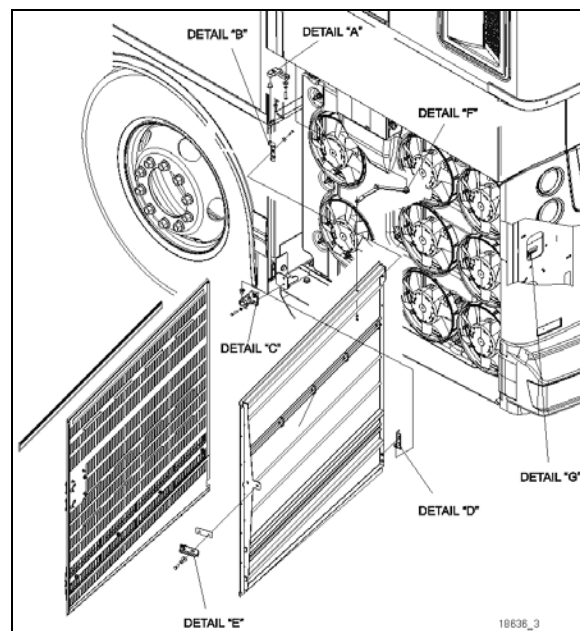

FIGURE 125: RADIATOR DOOR
6. Loosen the bolts, (details "A" & "C", Figure 125) holding the hinge to the vehicle structure to shift the door "LEFT or RIGHT".
7. Loosening the bolts (details "B" and "D", Figure 125) allows the door to be shifted "UP or DOWN".